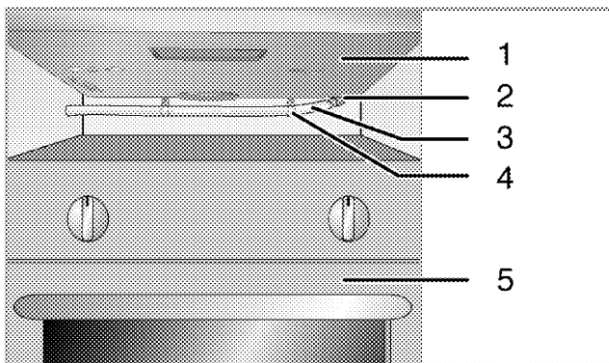

Figure 6
- ❖ To positioned the outer coating of gas pipe or hose and robustness control. **(See Figure 6)**